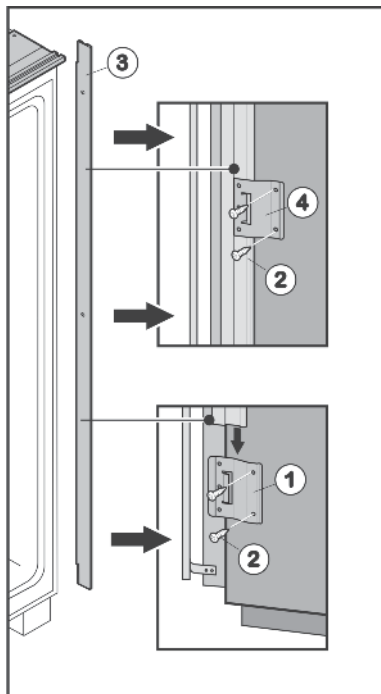
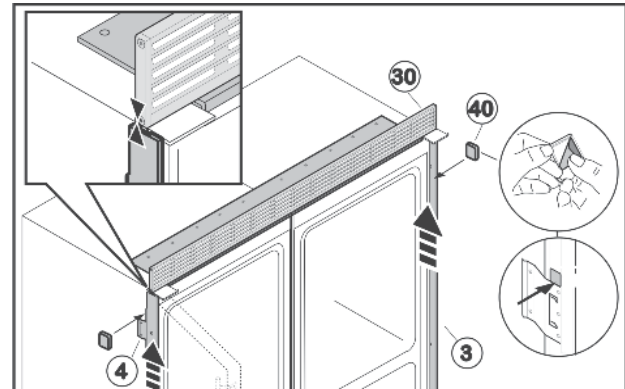

Fig. 39
Fig. 49
- Unscrew retaining plates Fig. 39 (1,4) and remove rail Fig. 39 (3).
- Fit retaining plate Fig. 39 (1) to the lower part of the hinge side by inserting two screws Fig. 39 (2) into the pre-cut holes.
- Slide rail Fig. 39 (3) into the retaining plate Fig. 39 (1) from above.
- Push second retaining plate Fig. 39 (4) onto the rail from above and screw onto the center of the side wall.
- Push third retaining plate Fig. 39 (4) onto the rail from above and screw onto the top part of the side wall.
- ▶ Remove adhesive tape from the side installation strip Fig. 49 (3).
- ▶ Push installation strip Fig. 49 (3) upwards until it is touching the ventilation grille Fig. 49 (30).
- ▶ Glue the adhesive plates Fig. 49 (40) above the retaining plate Fig. 39 (1) and the retaining plates Fig. 49 (4) respectively to the installation strip Fig. 49 (3) such that it cannot slide downwards.